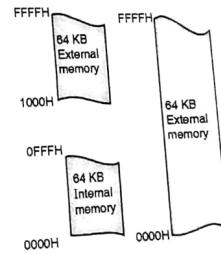

Fig. 8.2.2 : 8051 Program memory
- The microcontroller 8051 has 64 KB external and 64 KB internal program memory. Fig. 8.2.2 shows the memory map of program memory.